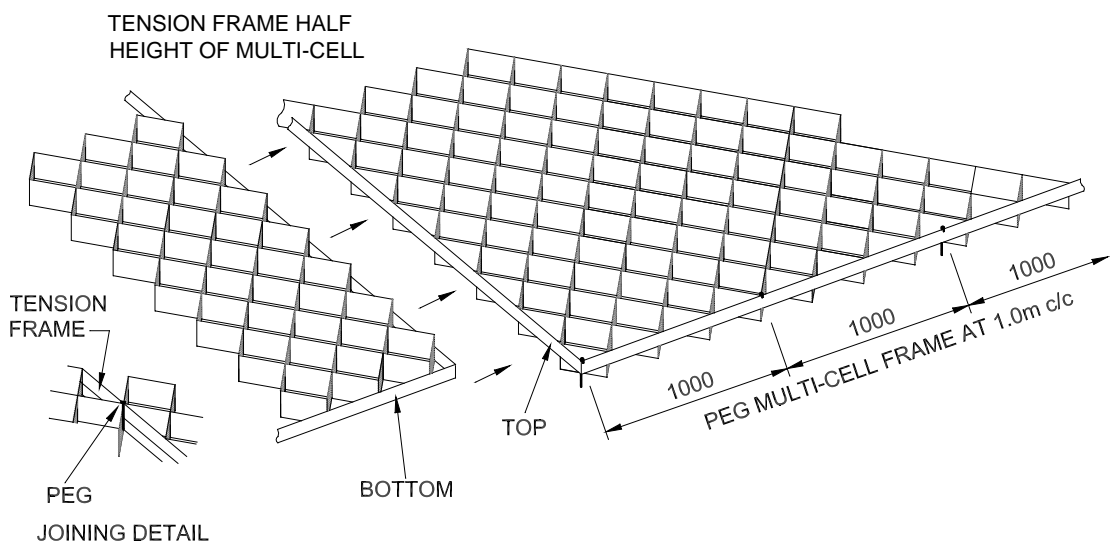

Figure 2
- The next Multi-Cell® panel is joined at corresponding cells by vertically threading standard wire nails or by clipping into existing pegs. (See Figure 2)
- The next Multi-Cell® panel is joined at corresponding cells by vertically threading standard wire nails or by clipping into existing pegs (See Figure 2).